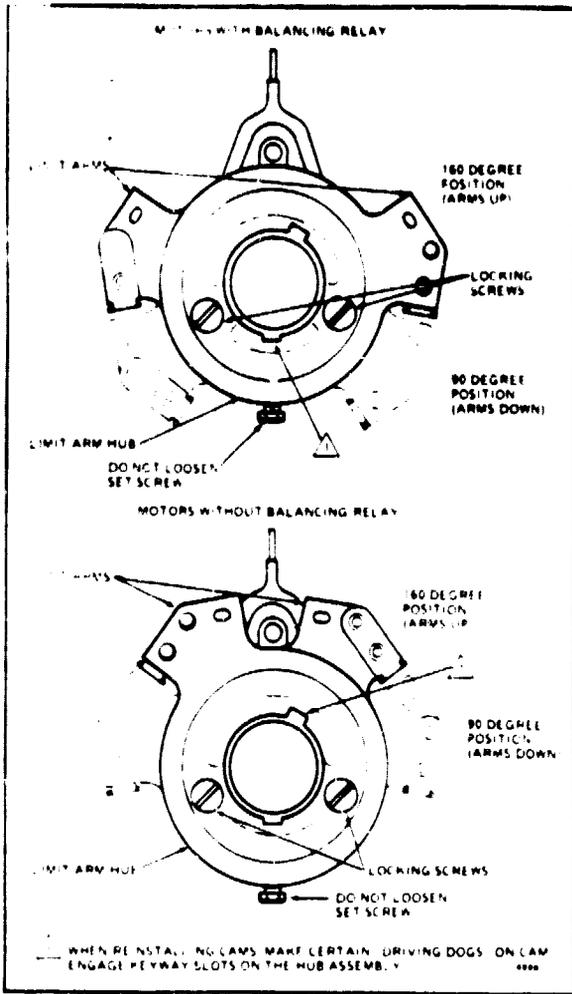

FIG. 6—CHANGE THE POSITIONS OF THE LIMIT ARMS TO ADJUST THE MOTOR STROKE.
^bSee Figs. 6, 10, and 11.
Step 1—Run the motor to approximately midstroke. Stop the motor by removing power to it. Remove the auxiliary end cover from the motor by taking out the 4 screws securing it. Be careful not to lose the washers (2) and spring on the motor shaft (M941C and D). Remove the switch cam assemblies (M941C, 1; M941D, 2; M941A and B have no switch cams).
Step 2—Loosen the 2 locking screws on the limit arm hub. (See Fig. 6.)